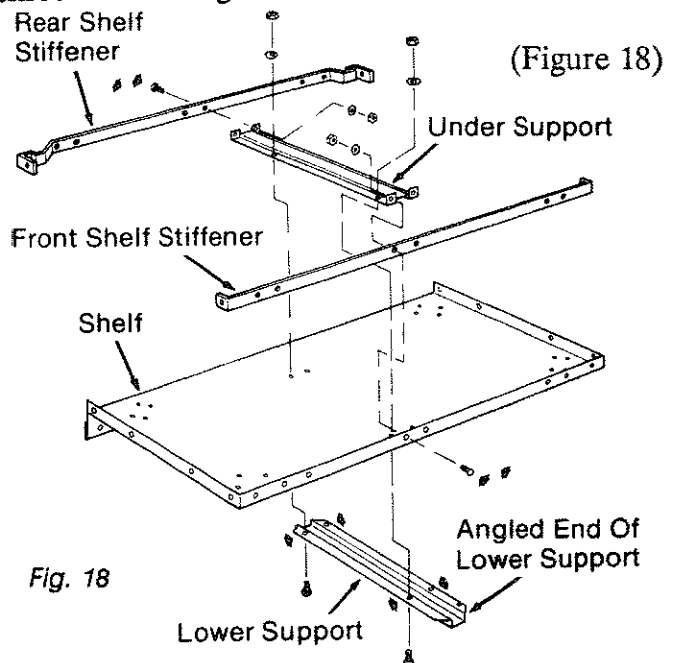

Fig. 18
2. Place the *front shelf stiffener* inside and against the front edge of the *shelf* so that all six holes line up. (Figure 18)
3. Place the *under support* on the *shelf*, so that the two holes on one end line up with the center holes on the other two parts. (Figure 18)
4. Place the *lower support* under the *shelf*. It should rest directly below the *under support*, with the angled end sticking out. Line up the four holes in these three pieces. (Figure 18)
5. Place the *rear shelf stiffener* on the *shelf* so that the two ends fit between the edges of the *shelf*, and the two center holes line up with the holes at the end of the *under support*. (Figure 18)